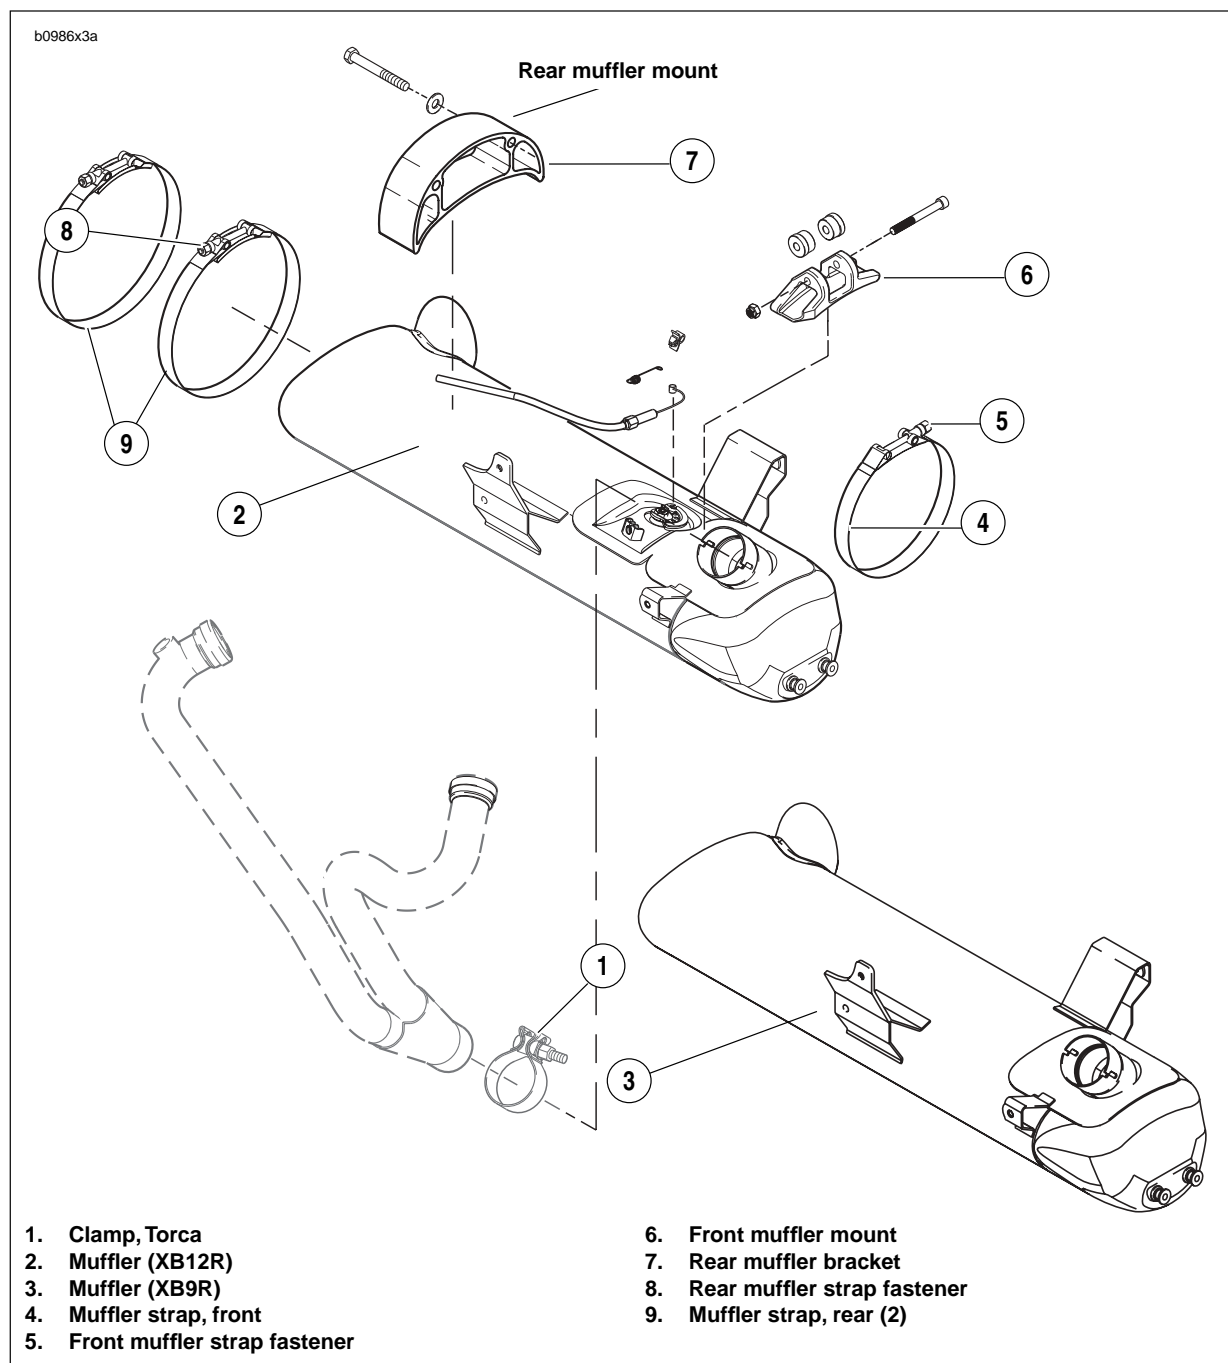

Figure 3-44. Muffer Mounting System (XB12R) and (XB9R)
19. See Figure 3-44. Apply LOCTITE 271 (red) to rear muffer bracket fasteners, install and tighten to 32-36 ft-lbs (43.4-48.8 Nm).